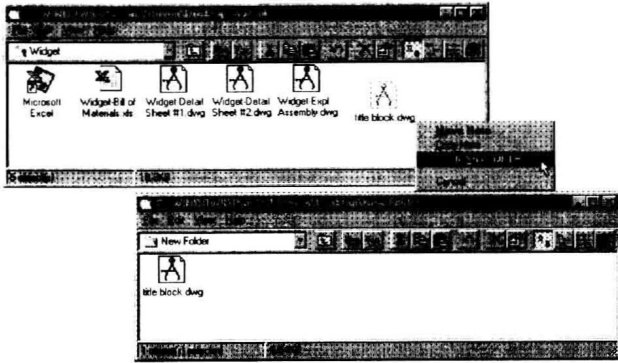

Figure 1.10 Creating a file shortcut in the project folder.
5. Move the two folders, if necessary, so that both can be viewed on the desktop as shown in figure 1.10.
7. Release the button when the file icon is located in the project folder. A menu will appear as shown in figure 1.10.